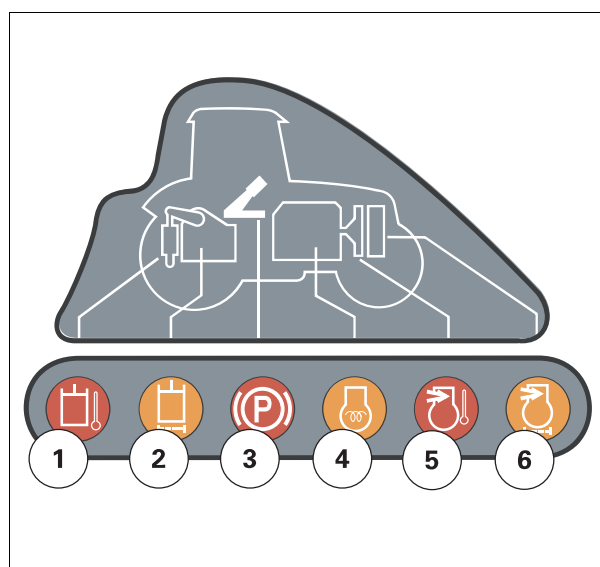

Fig. 4.
- (11) Parking brake and operating failure indicator lights fig. 4